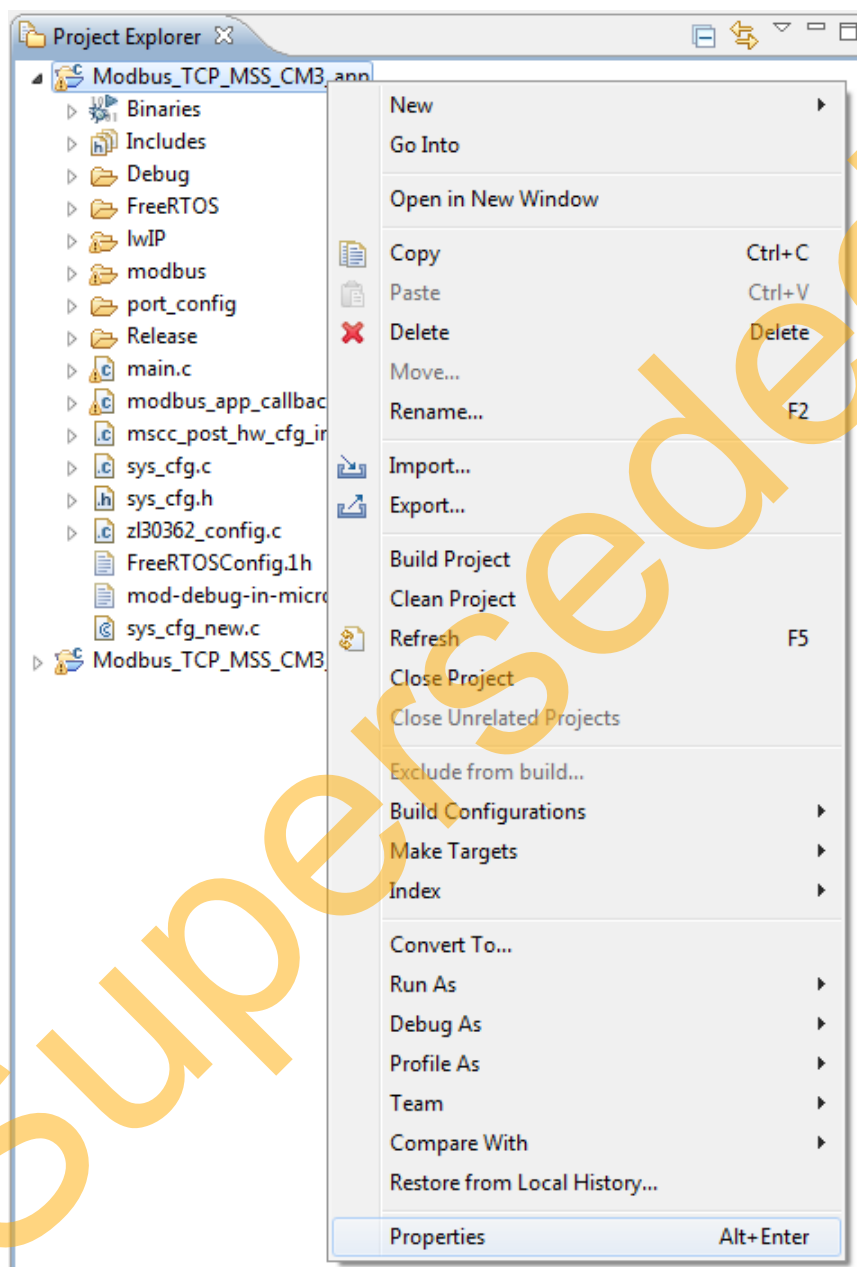

Figure 20 • Project Explorer Window of SoftConsole Project
1. To run the design in Static IP mode, right-click on the **Project Explorer** window of SoftConsole project and go to **Properties** as shown in Figure 20.